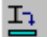

**Figure 8-2: Auto Select Sections form**
2. Click the drop-down box that reads "Add I/Wide Flange" in the Click To area of the Define Frame Properties form. Scroll down the resulting list of potential Add sections to locate *Add Auto Select List*. Double click on it. The Auto Selection Sections form shown in Figure 8-2 appears.